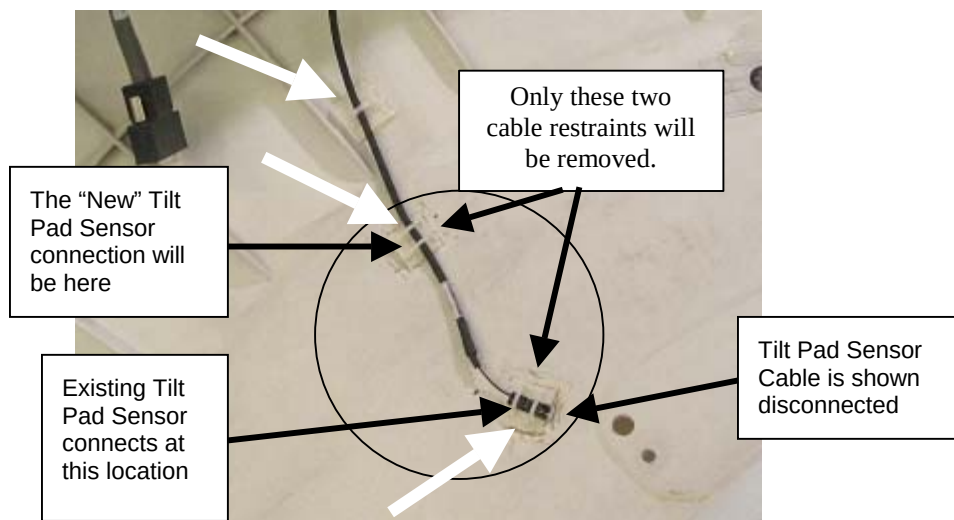

Figure 1 Identify Cable Restraints to be Removed
1. Remove gantry front cover and identify the two cable restraints to be replaced. See Figure 1.